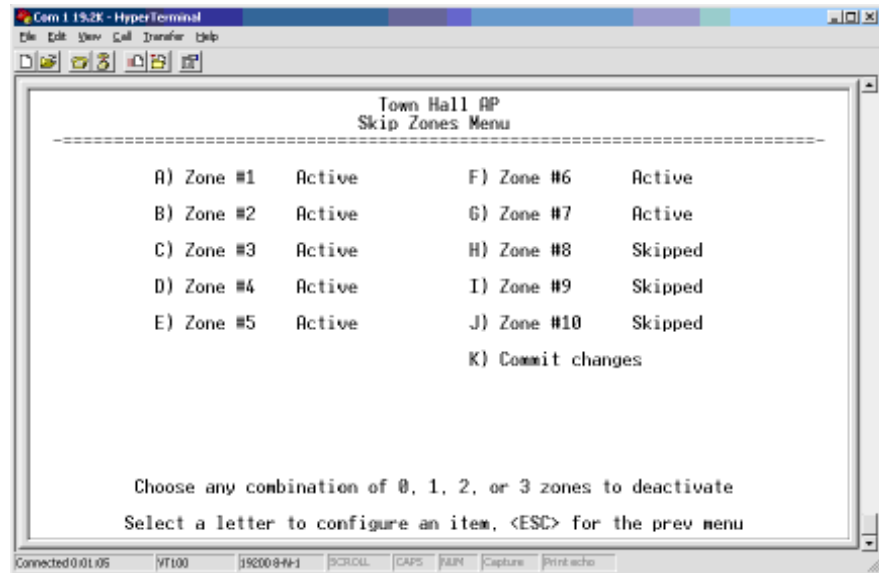

Figure 2-27. Skip Zone Options Submenu—DataMover ESS Only
- **Skip Zones** (*Does not apply to ESS-II. Editable at AP Only.*)—This selection brings up a submenu (Figure 2-27) that displays the current utilization of zones. Each zone consists of eight RF channels. In some instances there may be a part of the spectrum used by another system, that results in “continuous” or “persistent” interference to your system. To alleviate this form of interference, the transceiver may be programmed to “block out” affected portions of the spectrum using the Skip Zones Menu.
Figure 2-27 displays the utilization of 10 zones, each having eight RF operating frequencies. Zones can be toggled between **Active** and **Skipped** at Access Point units by first keying in the letter of the zone to be changed, and then pressing the spacebar to toggle between the two options for each zone. Select the **Commit Changes** menu item to implement changes. These changes will be forwarded to all units in the network through the Access Point's beacon signal.